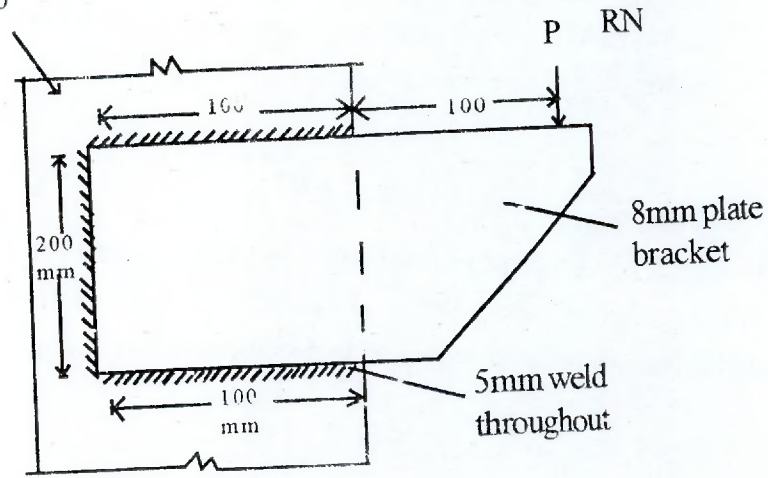

Fig 1
- (c) Fig 1 shows an eccentrically loaded fillet weld connection. Calculate the maximum factored value of load P that can be safely allowed. 10